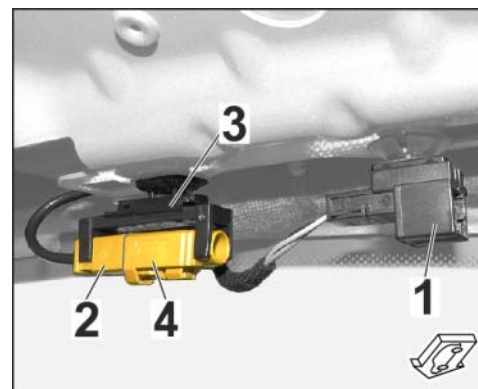

Figure 20
- 3.5.3 Remove video signal plug connection from holder and remove dummy plug. ⇒ *Figure 20*